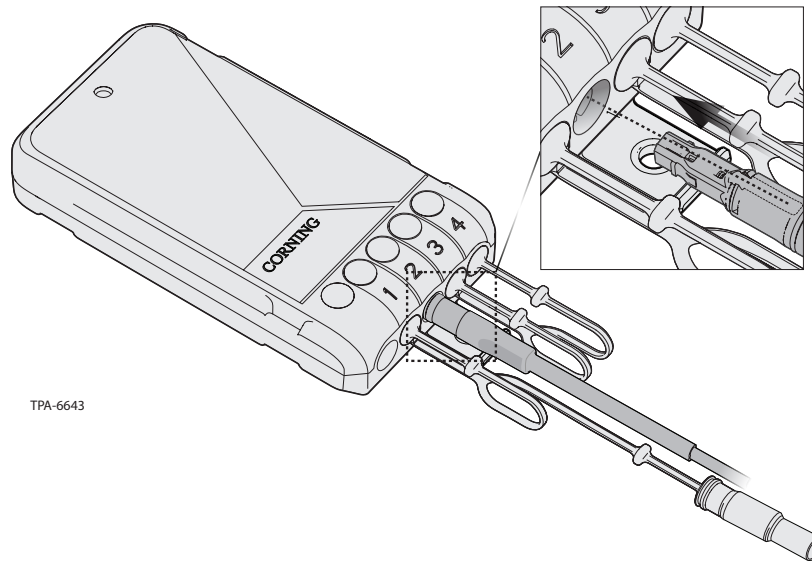

Figure 24
Step 2: Align the notch on top of the connector, with the port button on the terminal (Figure 24).